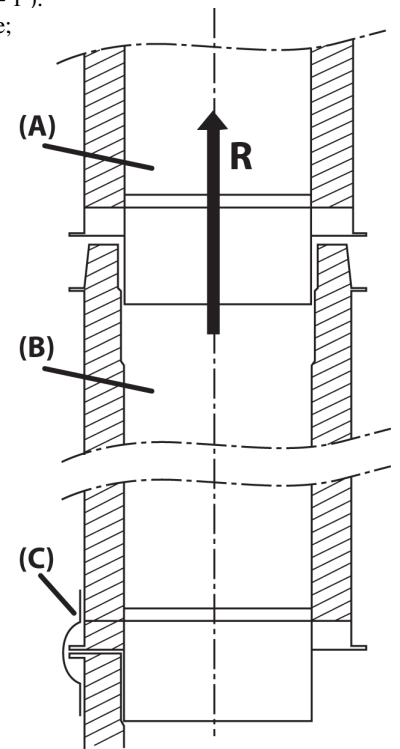

Fig. 1.
- The installation direction must be respected as indicated in Fig.1.
In the direction of the flue gases “R”, the higher element (A) must slide into the lower element (B) (see also Fig. 1).
- On each connection between 2 elements, the metal locking band (C) that is delivered with each element must be applied and must be fixed by clicking the clamp; this clamp clicks over a metal strip with a little hole for an eventual locking pin (Fig. 1).